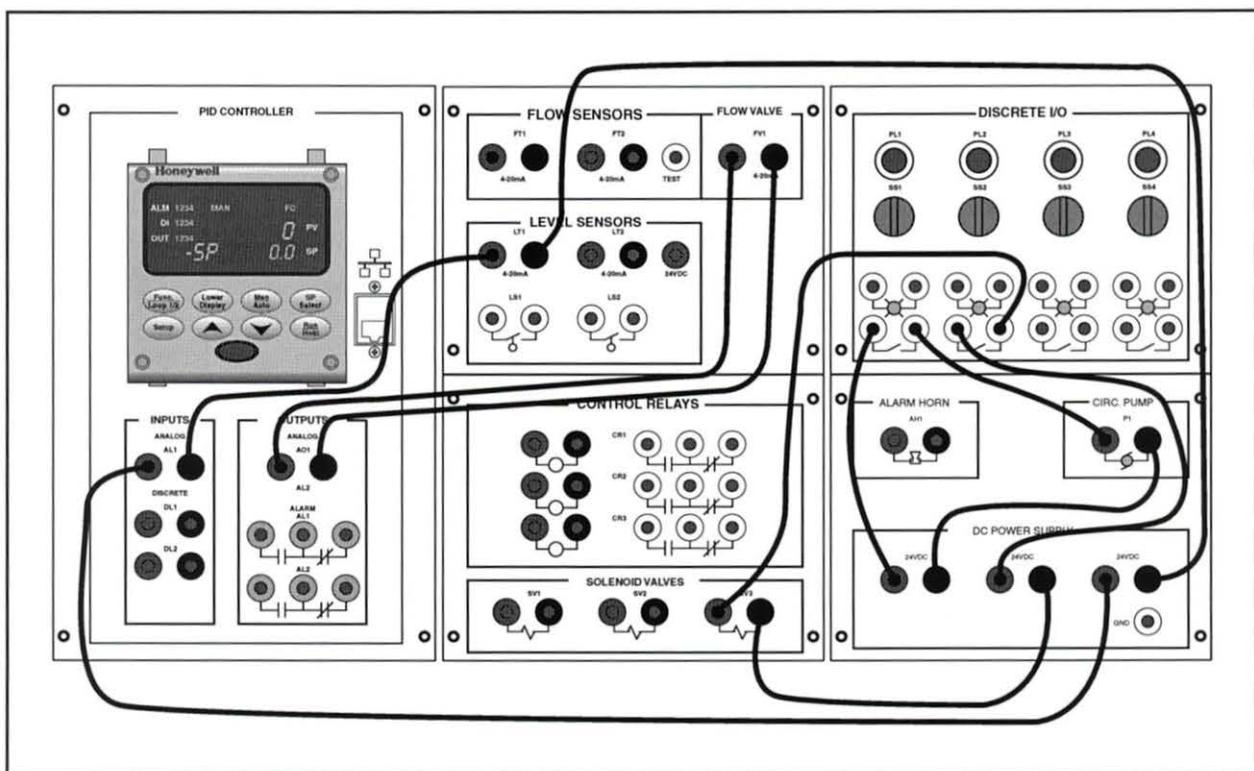

Figure 86. Connections for Closed Loop Level Control
- E. Make sure the circuit is still connected as shown in figure 86. If it is not, reconnect it.